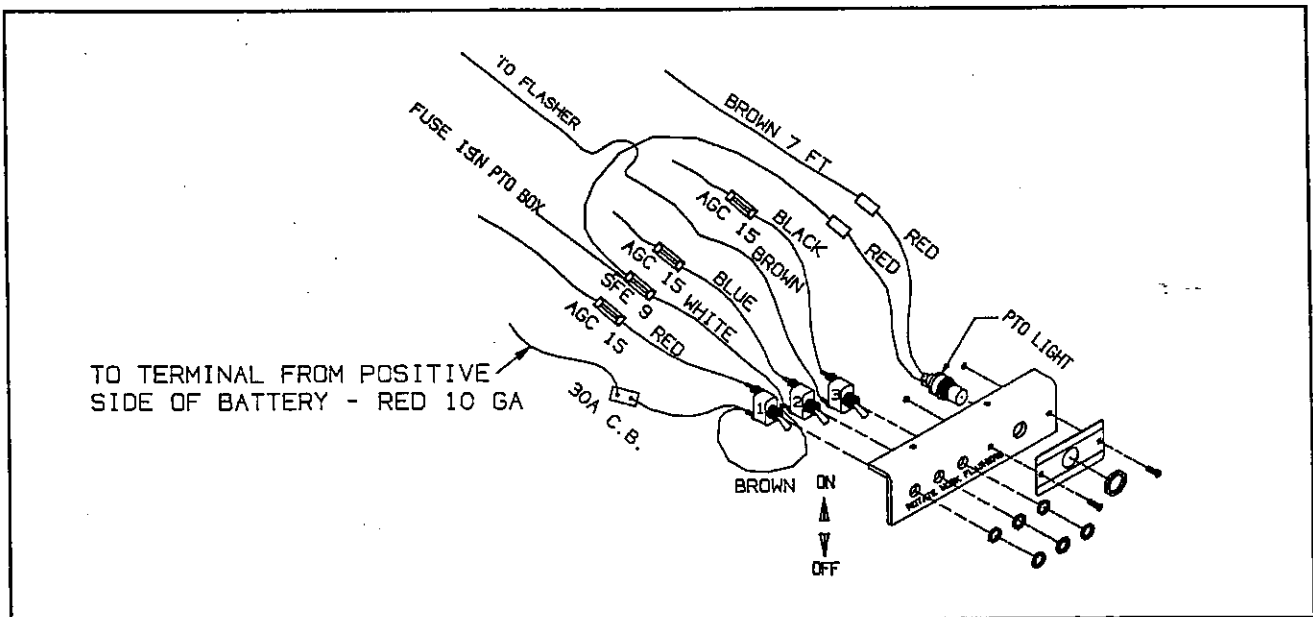

Figure 4-8 Dash Switch Panel Installation
a. Assemble three toggle switches in the aluminum panel from the back side with the toggle switch key slots down, away from the mounting flange. Tighten jam nuts securely. (See Figure 4-8)
b. Mount the PTO caution placard on the panel using two 3/16" stove bolts with the top of the placard toward the mounting flange of the panel. Install a lock washer and nut on each stove bolt. Align the large hole of the placard with the largest hole of the panel. Tighten mounting bolts securely. (See Figure 4-8)
c. Mount the PTO warning light in the largest hole of the panel from the unpolished side. Install jam nut on front side and tighten securely against the placard. (See Figure 4-8)
**4-7.6** Switch panel assembly is wired as shown in Figure 4-8.
**4-7.18** Route the wire through the fire wall, to the switch panel, along with the emergency light switch wiring. Attach the wire to the bottom of SWITCH 1 along with the loose end of the short brown wire of SWITCH 2. (See Figure 4-8)